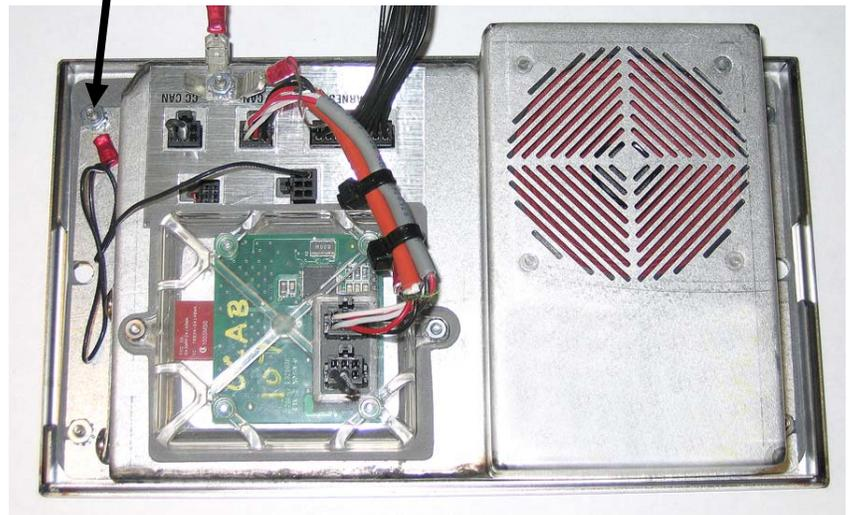

Figure 3: Single fryer controller with radio.
3. Attach and ground the other end of the locator to the stud on the controller shown below. See Figure 3.